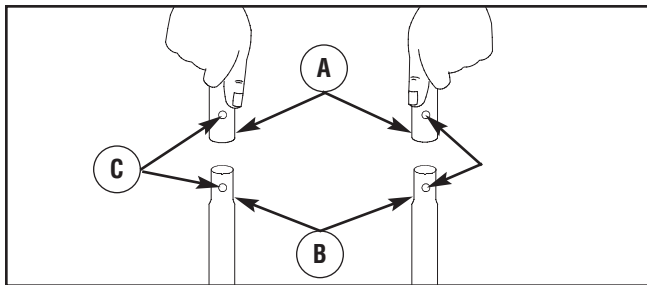

Figure 1 — Attach Handle to Base
1. Place handle (A) onto handle supports (B) connected to main unit. Make sure holes (C) in handle align with holes (C) on handle supports (see Figure 1).